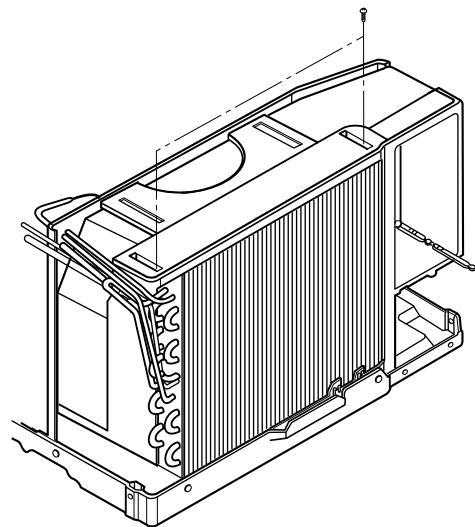

Figure 13
6. Re-install the component by referring to notes. (See Figure 13)